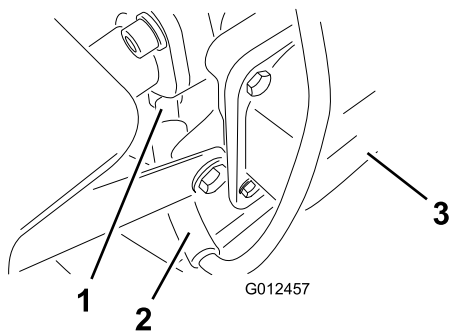

Figure 26
6. Disconnect the wire from the spark plug (Figure 26).
8. Remove the spark plug and the metal washer (Figure 26).
3. Connect the wire to the spark plug (Figure 26).